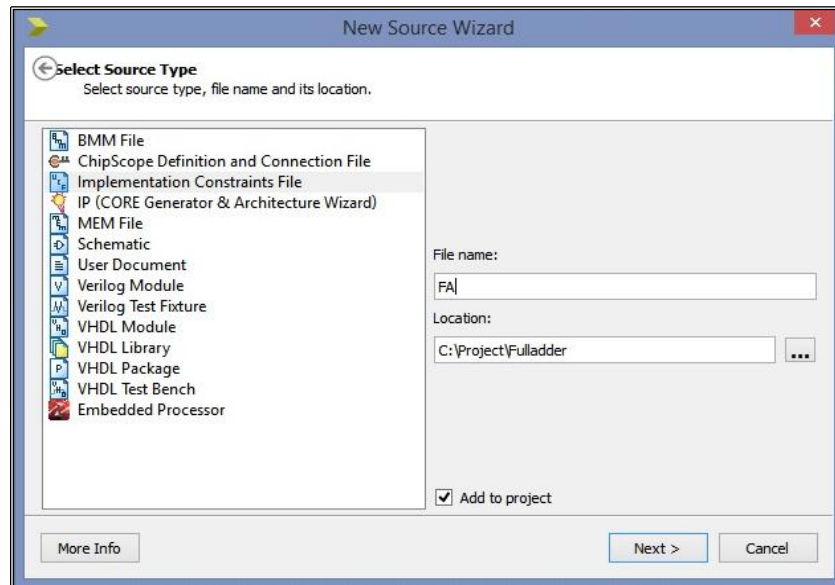

Fig 3.16: UCF creation
18. For UCF File, right click on the design (Fulladder.v) and select **New Source**. New Source Wizard will open. Select source type as **Implementation Constraints File** and enter the file name as “FA” (Fig 3.16).